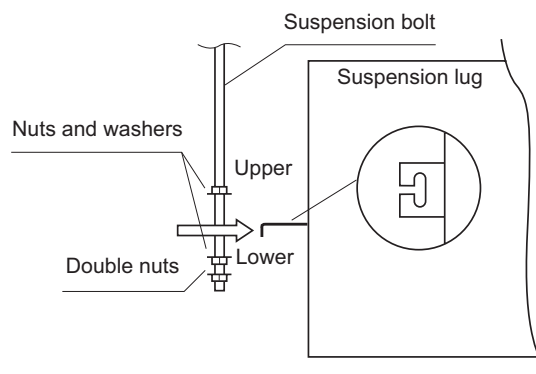

Fig. 2-147
- Thread the 3 hexagonal nuts and 2 washers (field supply) onto each of the the 4 suspension bolts as shown in Fig. 2-147. Use 1 nut and 1 washer for the upper side, and 2 nuts and 1 washer for the lower side, so that the unit will not fall off the suspension lugs.